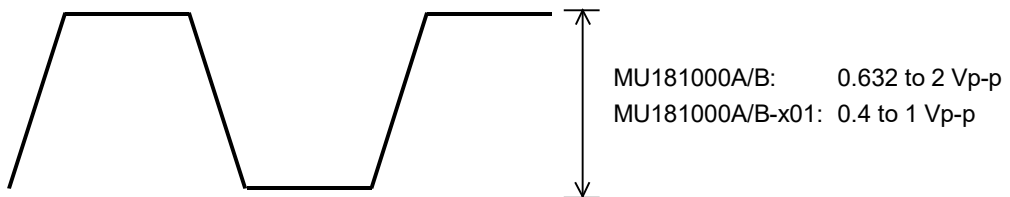

Figure 6.3.1-2 Example of waveform measured by sampling oscilloscope
4. Use the averaging function of the sampling oscilloscope to measure the waveform, and then check that the level of the measured waveform falls within the range shown in Figure 6.3.1-2.
5. Change the Center Frequency value in the MU181000A/B operation window as shown below, and perform measurement in the same way. Check that the waveform level falls within the range shown in Figure 6.3.1-2.